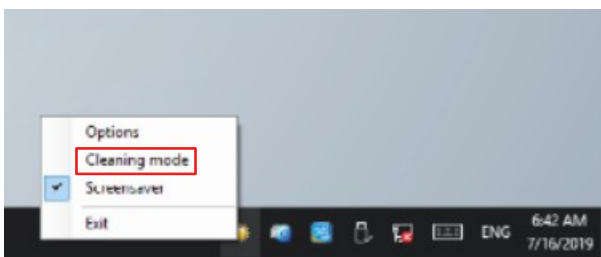

Fig. 46: CP39xx-14xx-0010_cleaning mode selection
3. Select the "Cleaning Mode" (see Fig. 46).